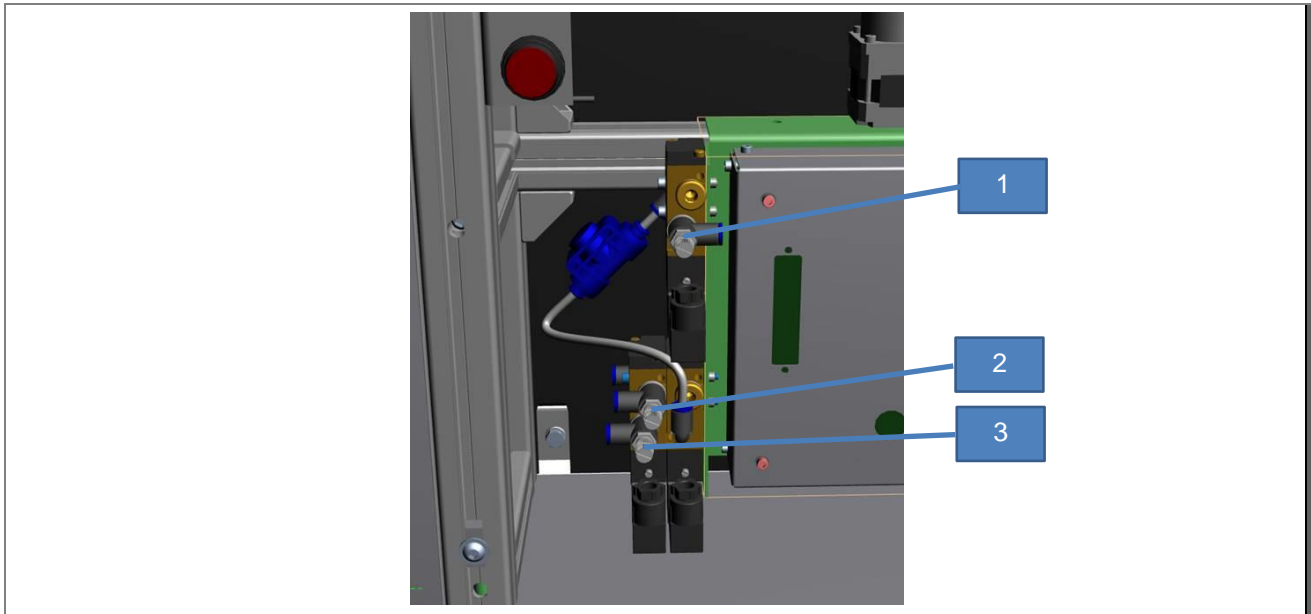

Fig. 16: Adjusting the speed of movement
1. Turn the needle valve **(1)** in a clockwise direction to reduce the speed of movement of the gripper fingers (see Fig. 16: Adjusting the speed of movement).
2. Turn the needle valve **(1)** in an anticlockwise direction to increase the speed of movement of the gripper fingers (see Fig. 16: Adjusting the speed of movement).
1. Turn the needle valve **(2)** in a clockwise direction to reduce the speed of movement when raising the gripper arm (Fig. 16: Adjusting the speed of movement).
2. Turn the needle valve **(2)** in an anticlockwise direction to increase the speed of movement when raising the gripper arm (Fig. 16: Adjusting the speed of movement).
1. Turn the needle valve **(3)** in a clockwise direction to reduce the speed of movement when lowering the gripper arm (see Fig. 16: Adjusting the speed of movement).
2. Turn the needle valve **(3)** in an anticlockwise direction to increase the speed of movement when lowering the gripper arm (see Fig. 16: Adjusting the speed of movement).